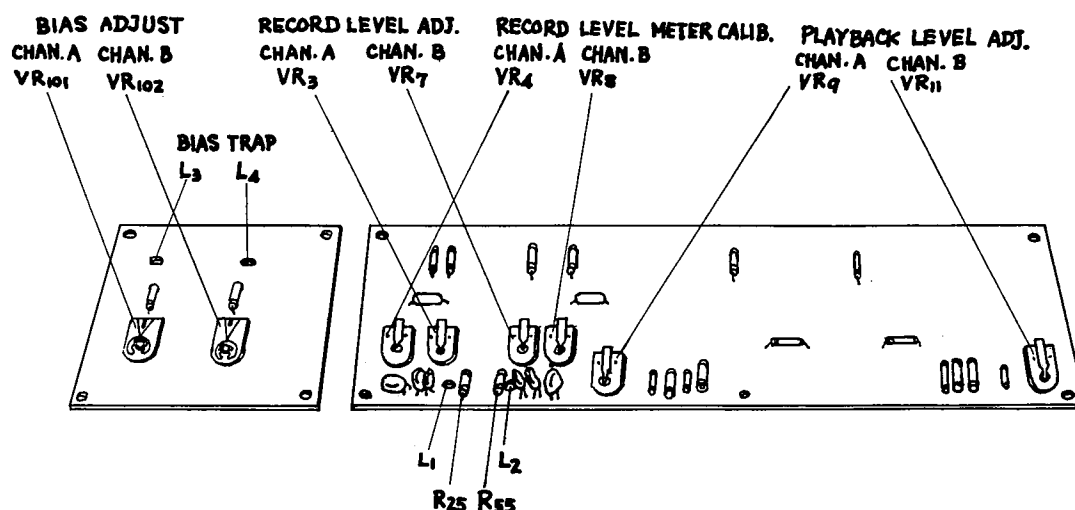

FIG. 9 RECORD AND PLAYBACK ADJUSTMENTS
13. Adjust the playback level control on the printed circuit board (VR9 for Channel A, VR11 for channel B, Fig. 9) to obtain 0 VU reading on the VU meter.
2. While recording a 500 Hz tone on the tape, adjust Channel A bias adjusting potentiometer (VR101, Fig. 9) for maximum output. Then turn the bias adjusting potentiometer counterclockwise until output meter reading decreases by 0.5 db from the maximum level.
3. Connect the signal generator to Channel B LINE input, and perform the same steps as above adjusting Channel B bias adjustment potentiometer (VR102, Fig. 9).
4. While recording a 500 Hz signal on the tape, adjust Record Level Calibration (VR3, VR7, Fig. 9) to obtain VU meter reading of exactly 0 VU.
6. Adjust Record Meter Level Calibration (VR4, VR8, Fig. 9) to obtain VU meter reading of exactly 0 VU.